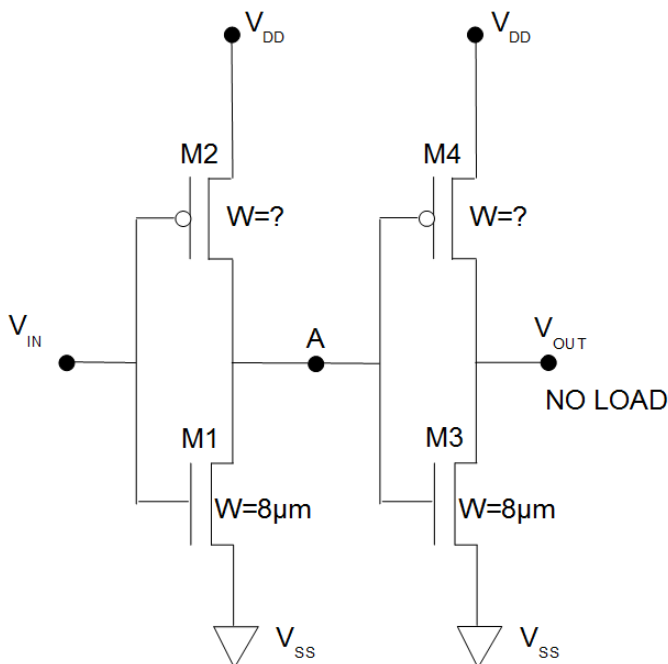

Fig. 5.1
5. Fig. 5.1 shows the schematic for a simple circuit built in the bulk CMOS technology of Lab 2. In the following assume  $V_{Tn} = -V_{Tp} = 0.5 \text{ V}$  and  $\mu_n = 2\mu_p$ . All transistors have length  $L = 2 \mu\text{m}$ . The gate oxide thickness  $t_{ox} = 25 \text{ nm}$ .  $V_{DD} = 3 \text{ V}$ . The interconnect line between the two inverters in Fig. 5.1 is very short, so that it has negligible capacitance. There is no load of any kind on the second inverter. Assume source and drain junction capacitances are negligible.
- d) Suppose the circuit of Fig. 5.1 is shrunk by reducing  $L$  while keeping all  $W/L$  ratios constant. Assume  $V_{Tn}$ ,  $V_{Tp}$ ,  $V_{DD}$  and  $t_{ox}$  are unchanged. We expect the maximum frequency at which the circuit can be clocked to be proportional to  $1/L^2$ . Explain why. (*Hint: generalize the solution to part (b) of this question*) *5 marks*